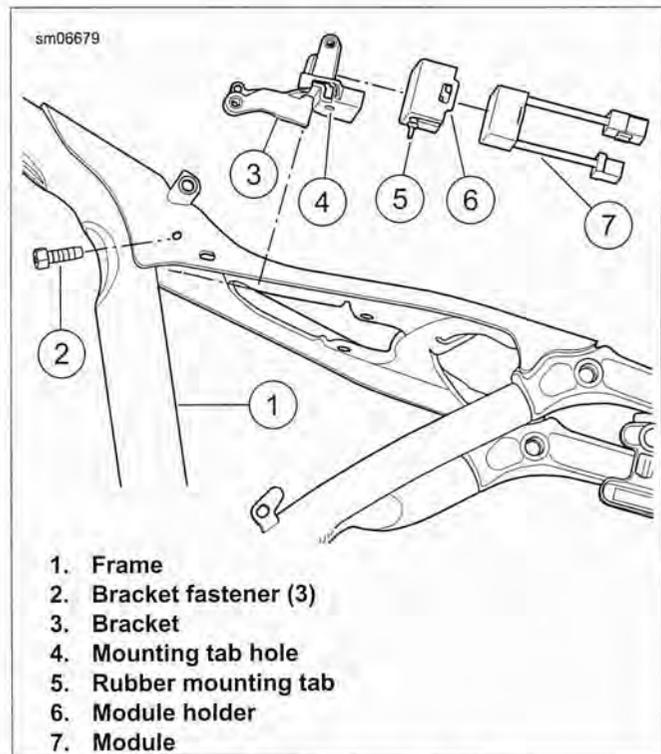

Figure 6-95. Converter Module
9. See Figure 6-95. Remove bracket fasteners (2).
10. Remove bracket (3) with converter module (7).
12. Remove rubber mounting tab (5) from mounting tab hole (4) to release module from bracket.
2. See Figure 6-95. Install module (7) and module holder (5) into bracket (3) by pulling rubber mounting tab (5) into mounting tab hole (4).
4. Install but do not tighten bracket fasteners (2).